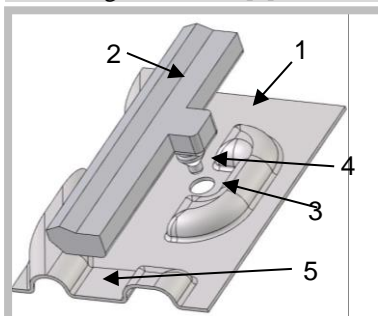

Figure 29: Section of heat exchanger plate [1] and gasket [2]
- Ensure that the gaskets [2] are in the designated slot [5], and that the fastening nipples [4] are in the designated holes [3] of the heat exchanger plate [1] (figures 29 through 31).